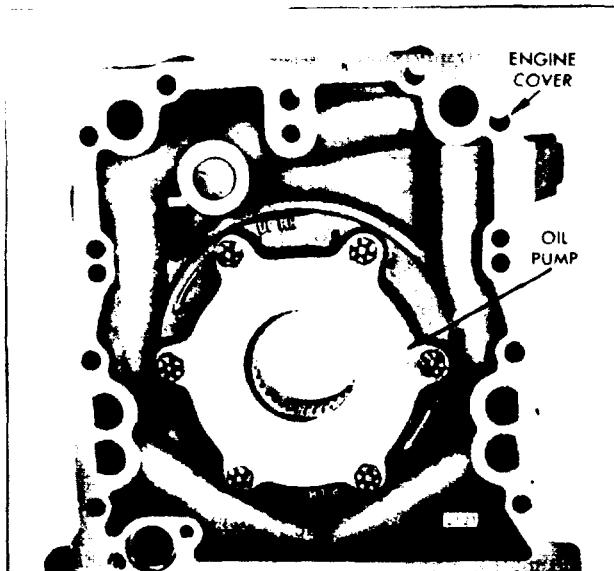

Fig. 1 - Typical Right-Hand Rotation
6. Remove the six bolts and lock washers (if used) which attach the pump assembly to the engine front cover (Fig. 1) and withdraw the pump assembly from the cover